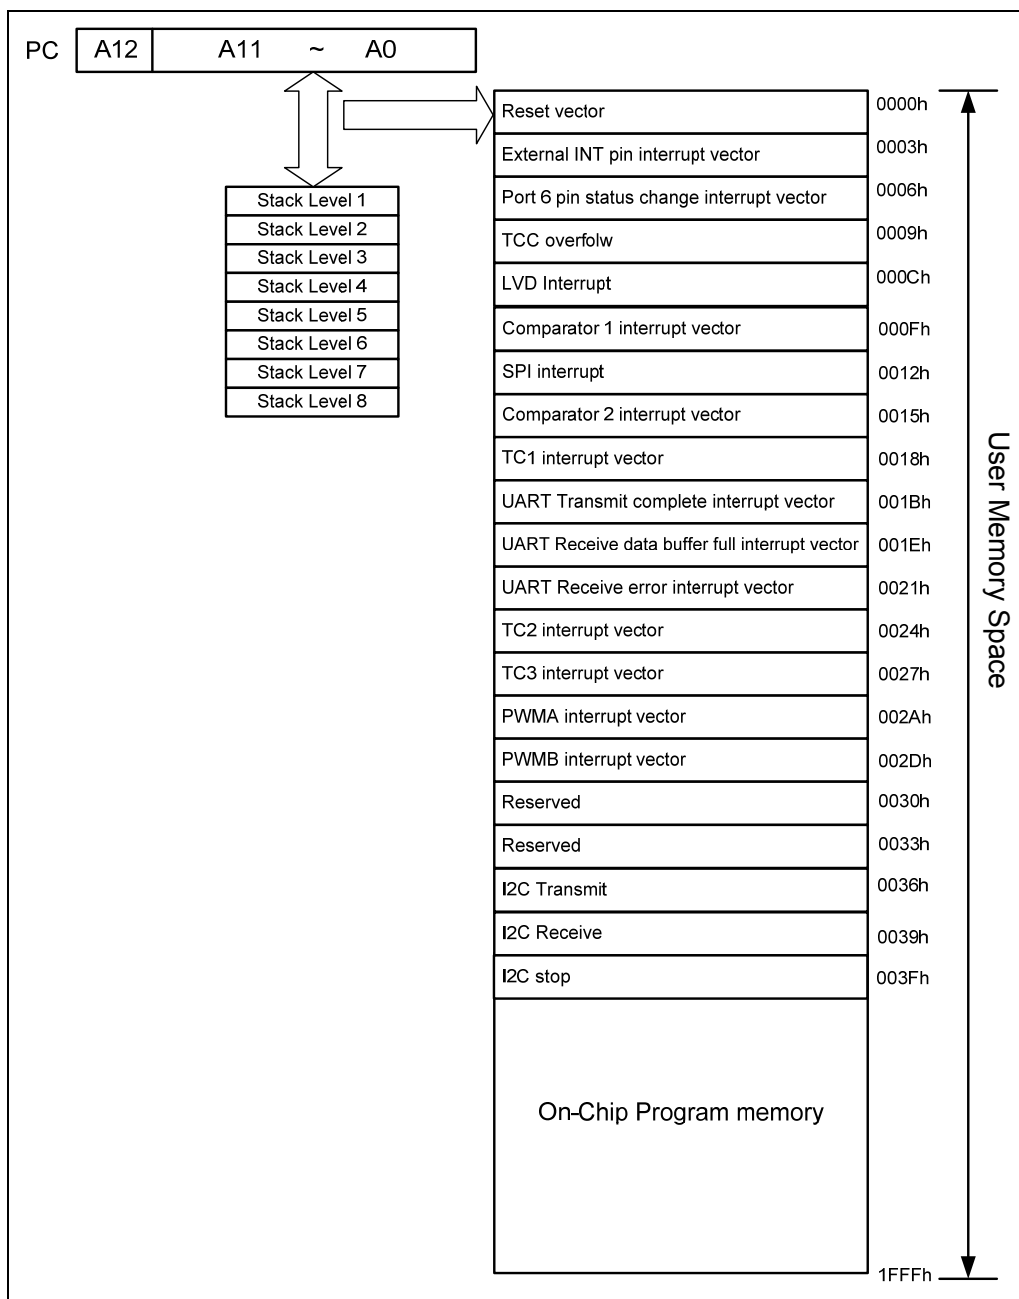

Figure 6-6 Program Counter Structure
- Depending on the device type, R2 and hardware stack are 12-bit wide. The program counter structure is depicted in Figure 6-6.